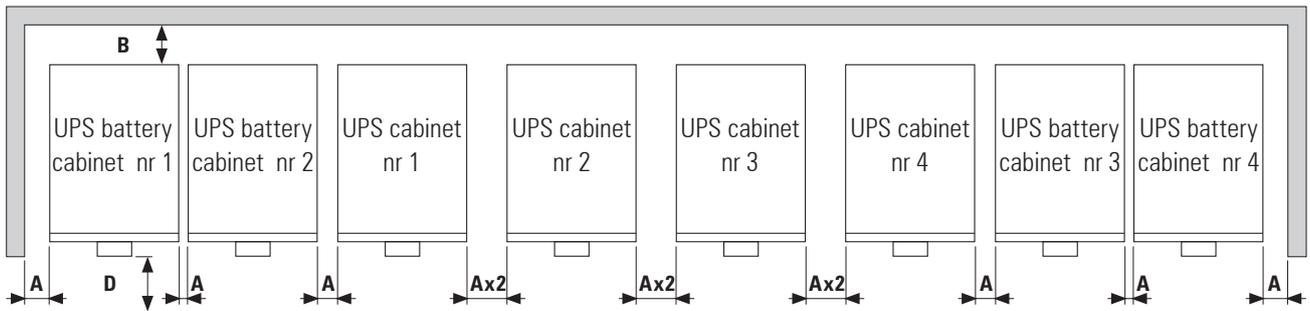

Fig. 31. Floor view with minimum distances for a parallel system.
- As i.e. Fig. 31 shows 4 equipments in parallel with their respective battery cabinet. For systems with less units act in each case accordingly.
Always respect the distances stated in Fig. 31, a part from the quantity of cabinets that sets the system.